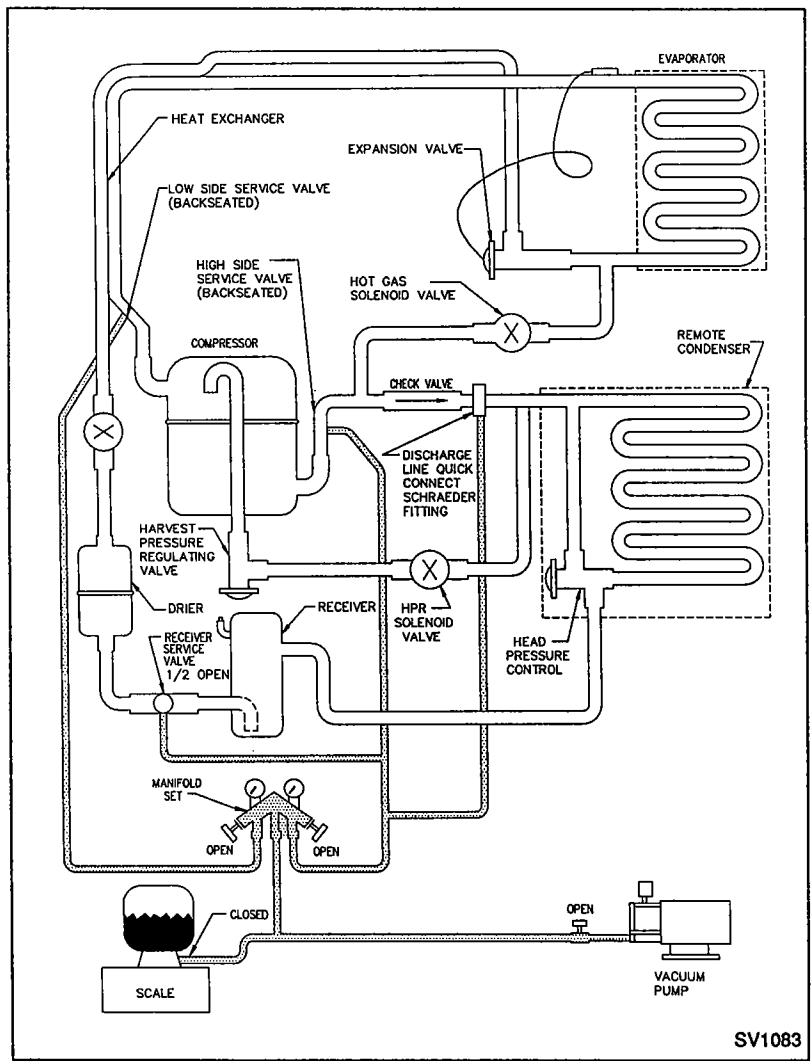

FIGURE 68. EVACUATION OF REMOTE SYSTEMS
1. Evacuation of remote systems requires connection at four points for complete evacuation as follows. Refer to Figure 68.
2. Install manifold gauges, scale and two-stage vacuum pump as shown on Figure 68.